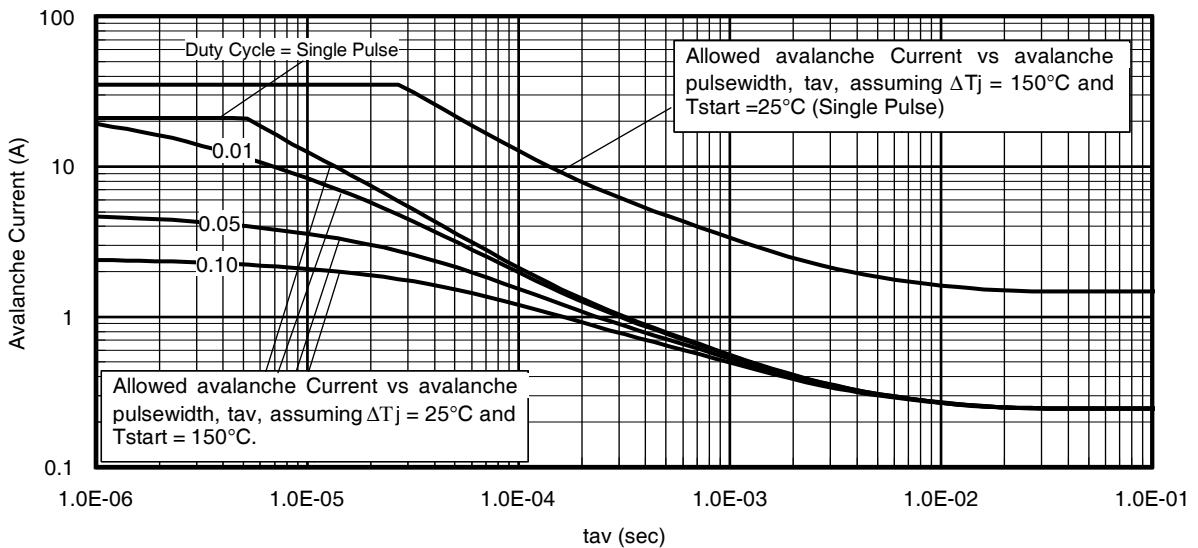

Fig 14. Typical Avalanche Current Vs. Pulsewidth
- ① Repetitive rating; pulse width limited by max. junction temperature. ④  $R_{\theta}$  is measured at  $T_J$  of approximately  $90^\circ\text{C}$ .
② Starting  $T_J = 25^\circ\text{C}$ ,  $L = 0.51\text{mH}$ ,  $R_G = 25\Omega$ ,  $I_{AS} = 21A$ . ⑤ Limited by  $T_{jmax}$ . See Figs. 14, 15, 17a, 17b for repetitive avalanche information
③ Pulse width  $\leq 400\mu s$ ; duty cycle  $\leq 2\%$ .
**Notes on Repetitive Avalanche Curves, Figures 14, 15:**
7.  $\Delta T$  = Allowable rise in junction temperature, not to exceed  $T_{jmax}$  (assumed as 25°C in Figure 14, 15).